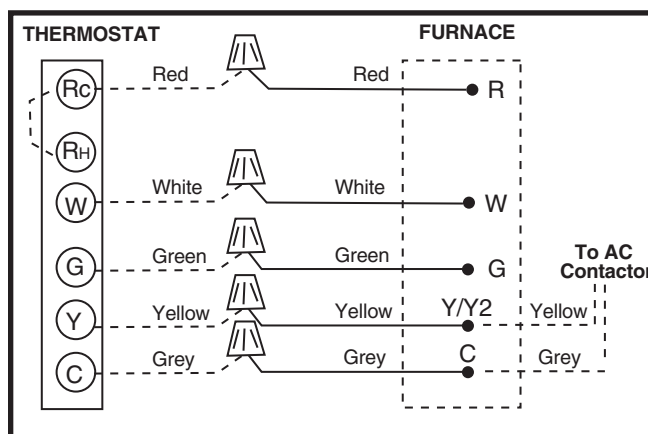

Figure 26. Thermostat Wiring for Nordyne Channel Control Board
Proper line voltage polarity must be maintained in order for the control system to operate correctly. Verify the incoming neutral line is connected to the white wire and the incoming “hot” line is connected to the black wire. The furnace will not operate unless the polarity and ground are properly connected as shown in Figure 26.
2. Connect the thermostat wires to the furnace low voltage pigtails (dependent on the installation application). See Figure 26. **NOTE:** If AC is installed with the furnace, a Y connection is required to be made at the furnace. See Figure 33 and Figure 34.